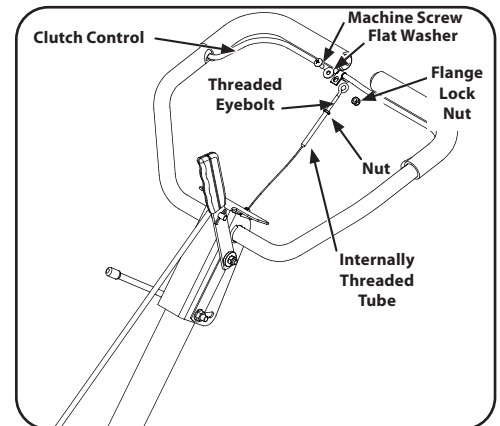

Figure 2-8
- Remove the machine screw, flange lock nut and washer from the clutch control. See Figure 2-8.
- Thread the eyebolt and nut removed earlier into the internally threaded tube at the end of the cable. Thread engagement should be about  $\frac{3}{4}$ ". Tighten the nut against the tube at the end of the cable. See Figure 2-8.